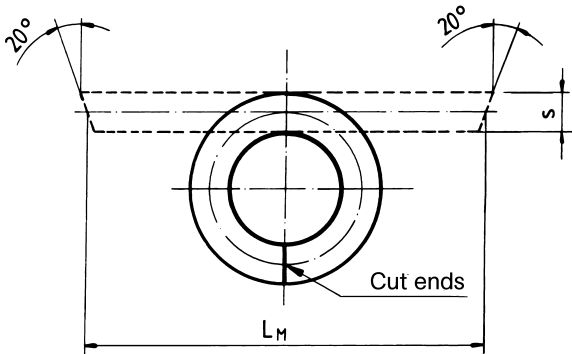

Figure 1: Cutting of packing rings
**For cutting purposes**, we recommend the straight cut perpendicular to the shaft. In order to achieve a gap-free parallel position of the cut ends when closing the packing ring, the cutting angle should be approx. 20° to both cutting ends (please refer to Figure 1 below).